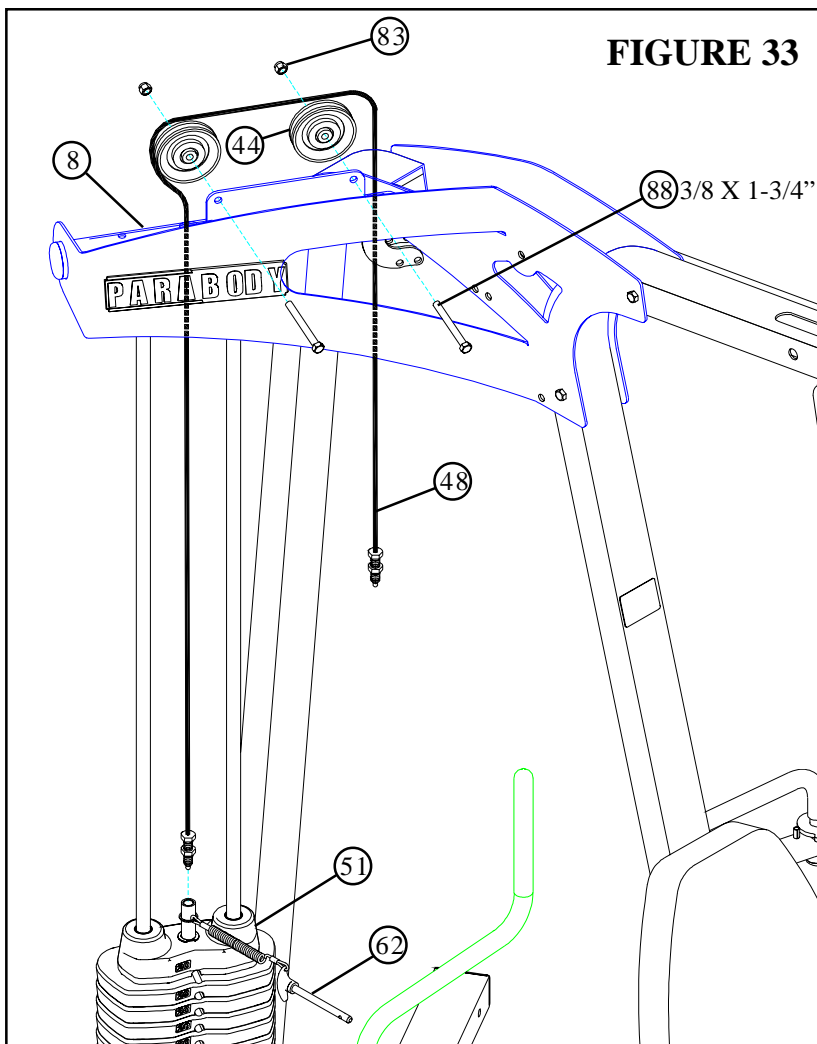

FIGURE 33
- Assemble the WEIGHT STACK PIN (62) to the HEAD PLATE (51) as shown in FIGURE 33.
- Screw the long threaded end of the WEIGHT STACK CABLE (48) into the end of the HEAD PLATE (51) .See FIGURE 33.
- Assemble two 3-1/2" PULLEYS (44) to the BOOM BRACKET (8) using two 3/8 X 1-3/4" BOLTS (88) and two 3/8" LOW HEIGHT LOCK NUTS (83) as shown in FIGURE 33.
- Route the WEIGHT STACK CABLE (48) around the pulleys in the BOOM BRACKET (8) as shown in FIGURE 33. (**NOTE: Make sure the cable runs in the grooves of the pulleys.**)